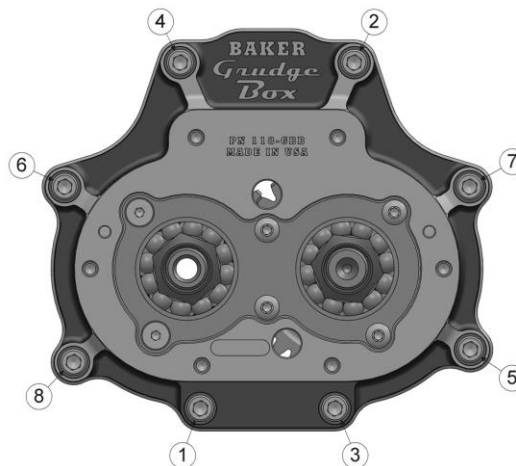

FIGURE 16 | TORQUE SEQUENCE FOR GRUDGEBOX BEARING DOOR BOLTS
- Install the eight stainless steel cap screws and washers (rounded side down) onto the bearing door using blue threadlocker. Be sure to replace the exhaust bracket beneath the bottom inner bolts. Torque to 22 – 25 ft-lb using the torque sequence in figure 16. You may remove the black rubber cap from the mainshaft at this time.